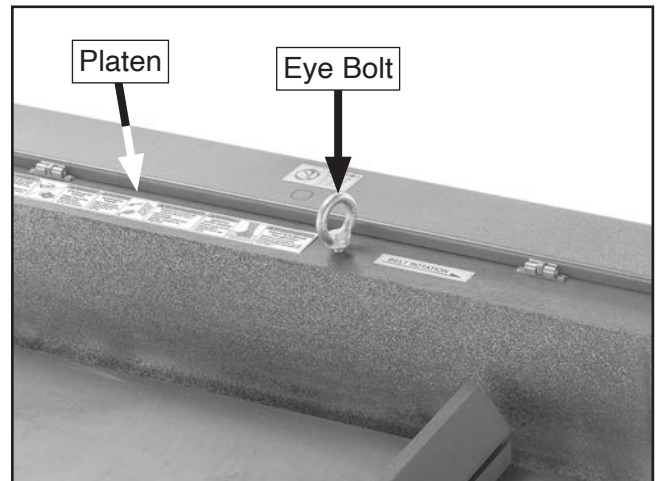

Figure 14. Eye bolt installed in platen.
4. Thread eye bolt included with machine into platen, as shown in **Figure 14**.